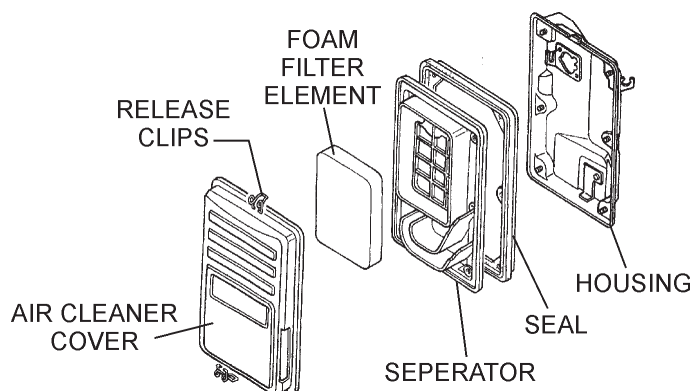

Figure 29. Engine Air Cleaner
1. Remove the air cleaner cover and foam filter element as shown in Figure 29.